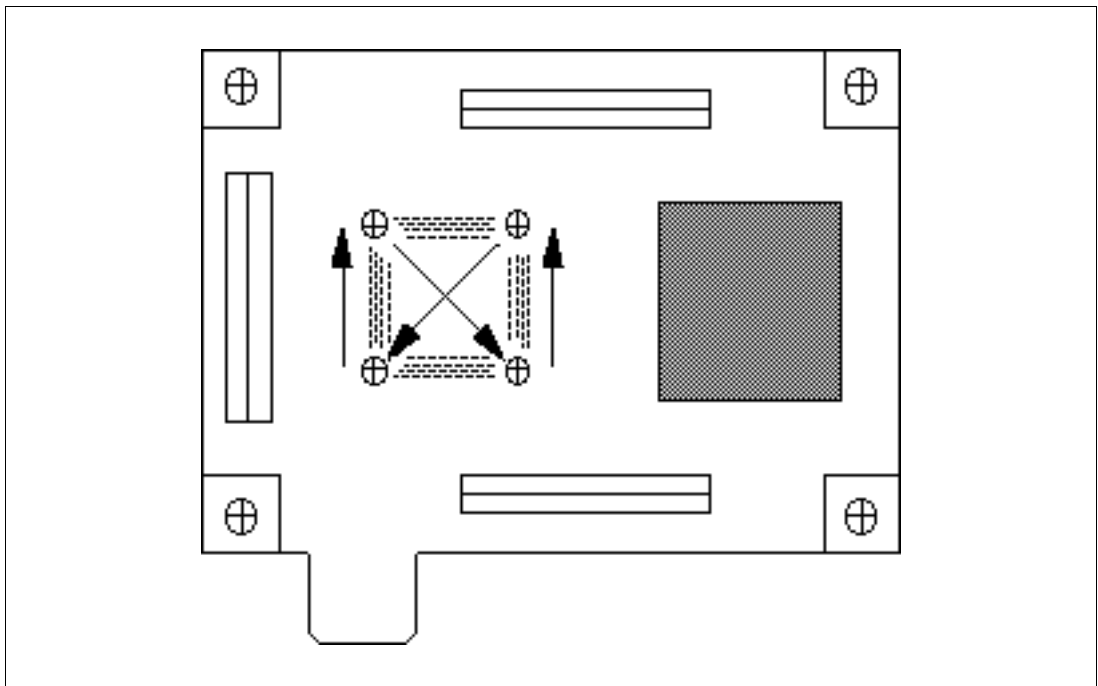

Figure 3.3 Screw-Tightening Sequence (Top View of the HS7420PWB30H)
4. Attach the HS7420PWB30H to the IC socket on the user system with four screws (M2 x 10 mm). Gradually tighten the screws alternately in a figure-8 pattern (see figure 3.3). Never forcibly tighten only one screw. Otherwise, a contact failure will occur or performance will be degraded. When tightening the screws, hold the IC socket so that it does not twist.